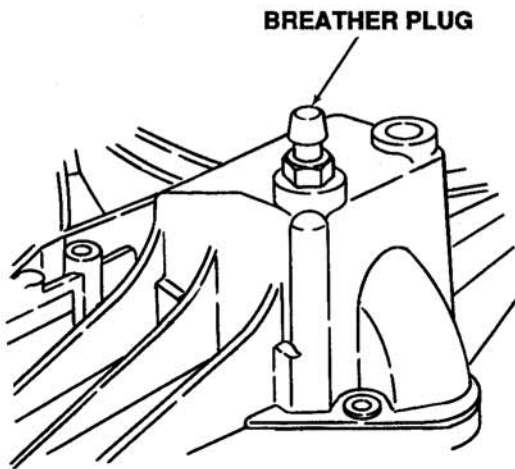

Figure 6-43. Breather Plug
6. The oil may be checked by removing breather plug. See Figure 6-43. Typically, an API classification SG/CD engine oil is used with a viscosity range equivalent to 20W50.